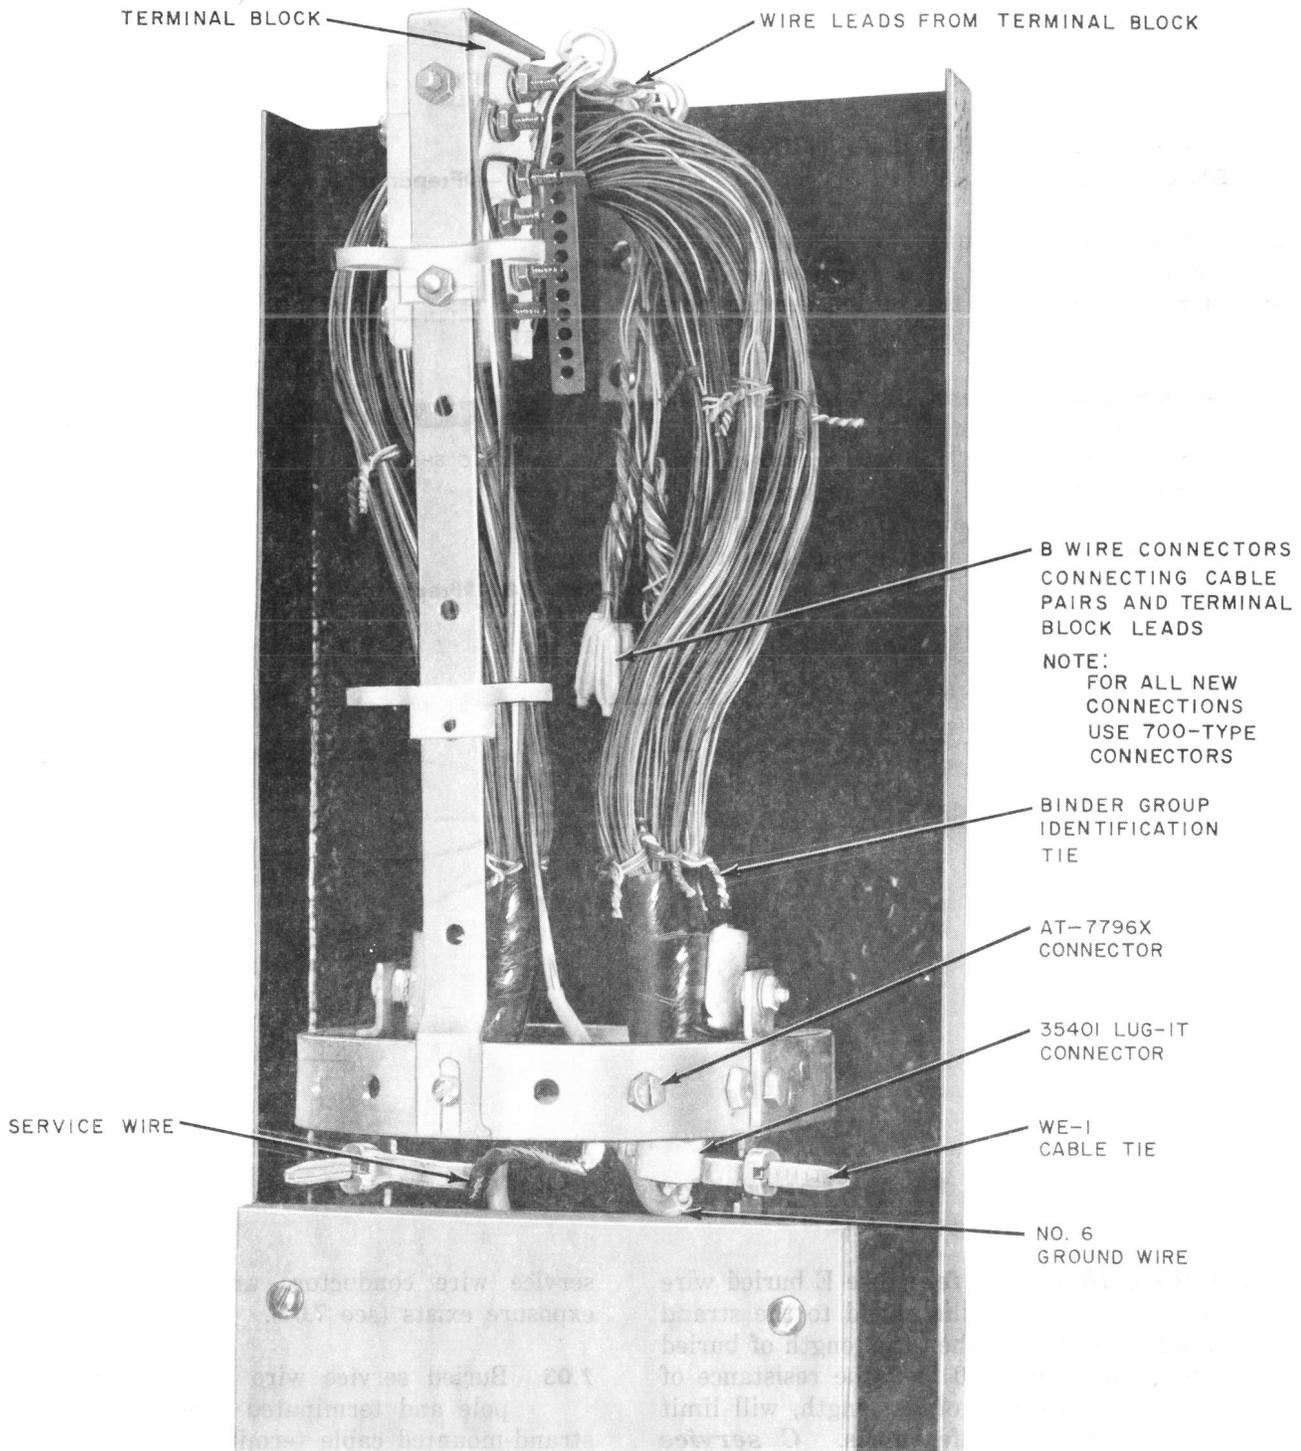

Fig. 16—Service Wire Installed—J Cable Closure (Protected)
5.09 Insert metal shield of service wire into AT-7796X connector and tighten securely. Refer to Fig. 16.